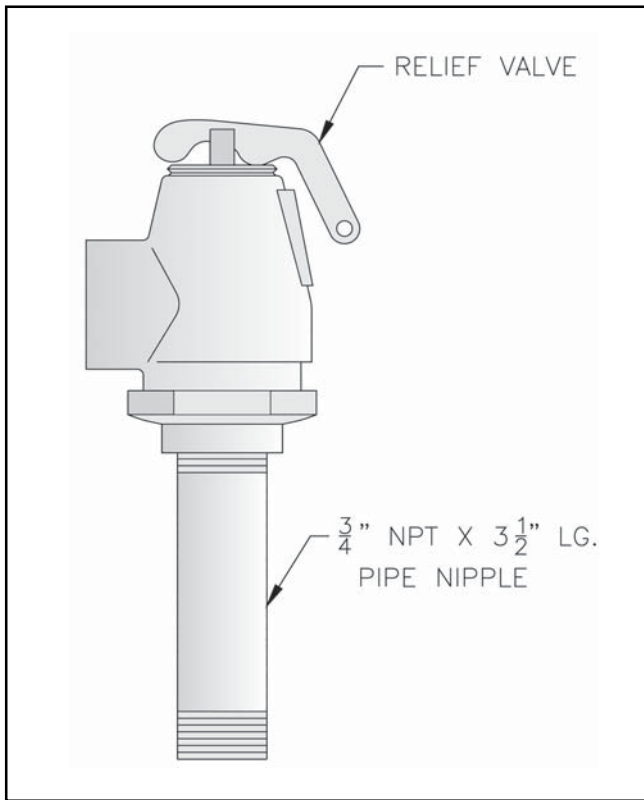

Figure 20: Safety Relief Valve Installation
C. Install Safety Relief Valve. See Figure 20. Components are located in Water Trim Carton. Safety Relief Valve must be installed with spindle in vertical position.